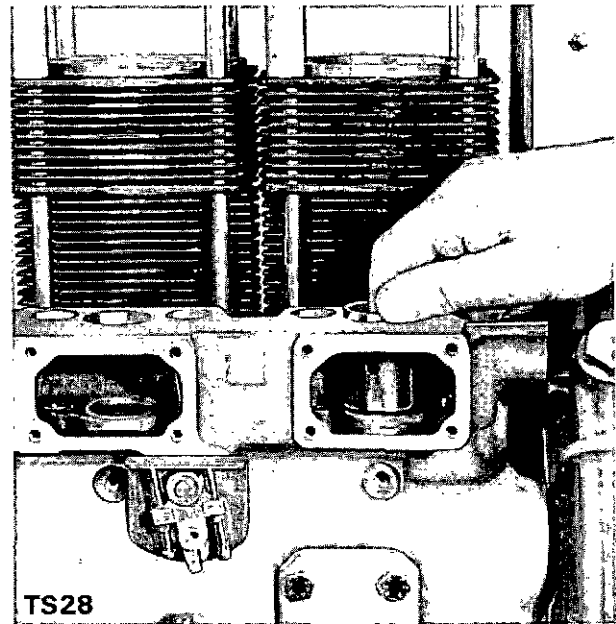

Fig. 86 Removing Fuel Pump Tappet Guide
- (c) Remove fuel pump tappet guide noting correct way for refitment (Fig. 86)